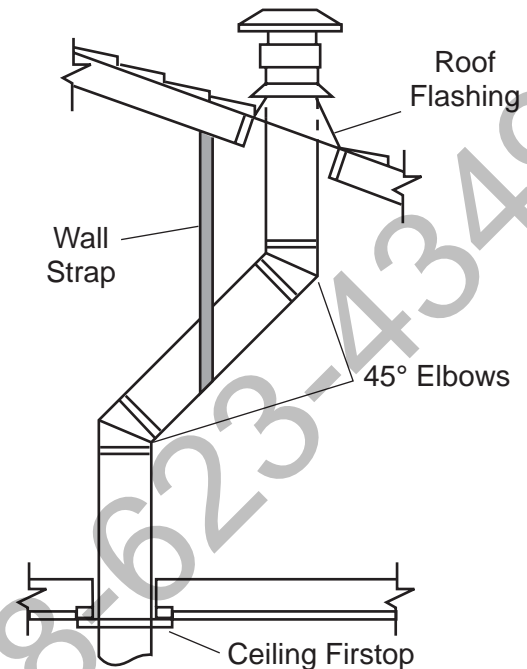

Figure 22 - Offset with Wall Strap and 45° Elbows
1. Determine the route your vertical venting will take. If ceiling joist, roof rafters or other framing will obstruct the venting system, consider an offset. See Figure 22 to avoid cutting load bearing members.
NOTE: If an offset is needed to avoid obstructions, you must support the vent pipe every three (3) feet. Use wall straps for this purpose. See Figure 22, page 20. Whenever possible, use 45° elbows instead of 90° elbows. The 45° elbow offers less restriction to the flow of the flue gases and intake air.
5. Place the flashing over the pipe section(s) extending through the roof. Secure the base of the flashing to the roof and framing with roofing nails. Be sure roofing material overlaps the top edge of the flashing as shown in Figure 22, page 20. There must be a 1" clearance from the vent pipe to combustible materials.